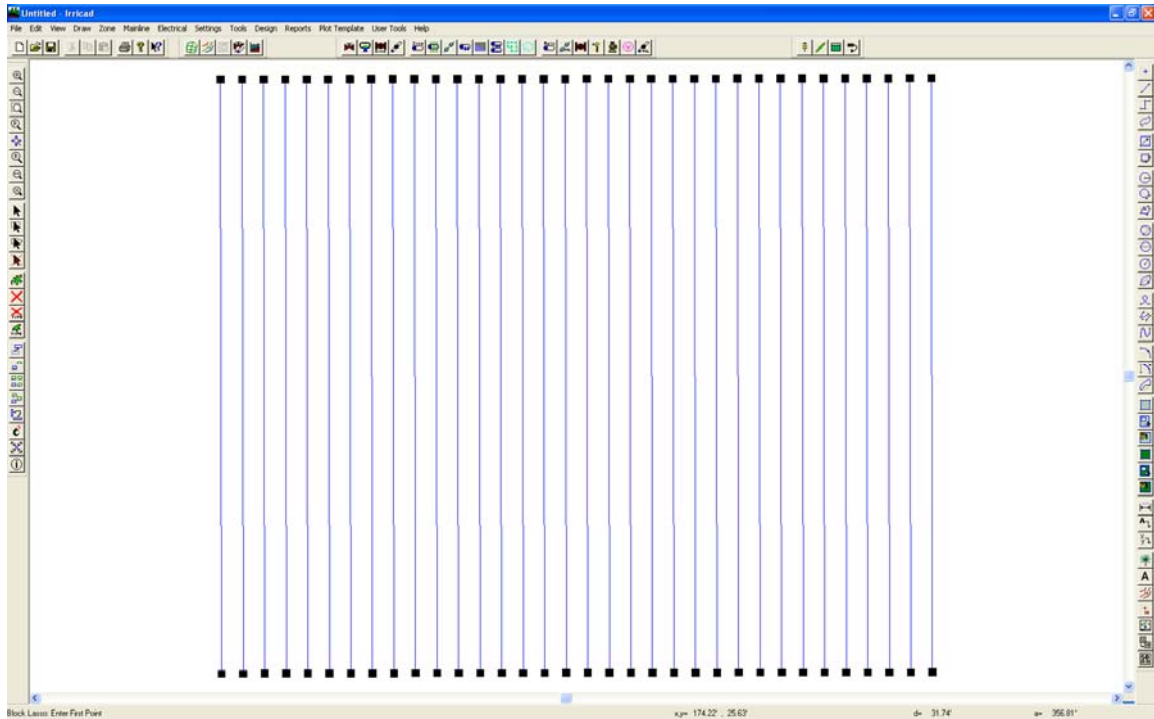

Figure SD 2
7. Now move the cursor to the bottom left of the screen and draw the outline of the block: left-click then draw a line upwards for **165ft (50m)** as seen on the status bar $d=165 (50)$ (approx.). Left-click the mouse to place the line at this point, and then continue drawing the block area by going **200ft (60m)** to the right and left-click. Now proceed downwards for **165ft (50m)** left-click then *Right-click/Close* after the third point has been placed. This will close the lasso, and complete the tape block. The block will automatically fill with tapes **6ft (2m)** apart. Select *View/Zoom All*. The block should look similar to Figure SD 2.